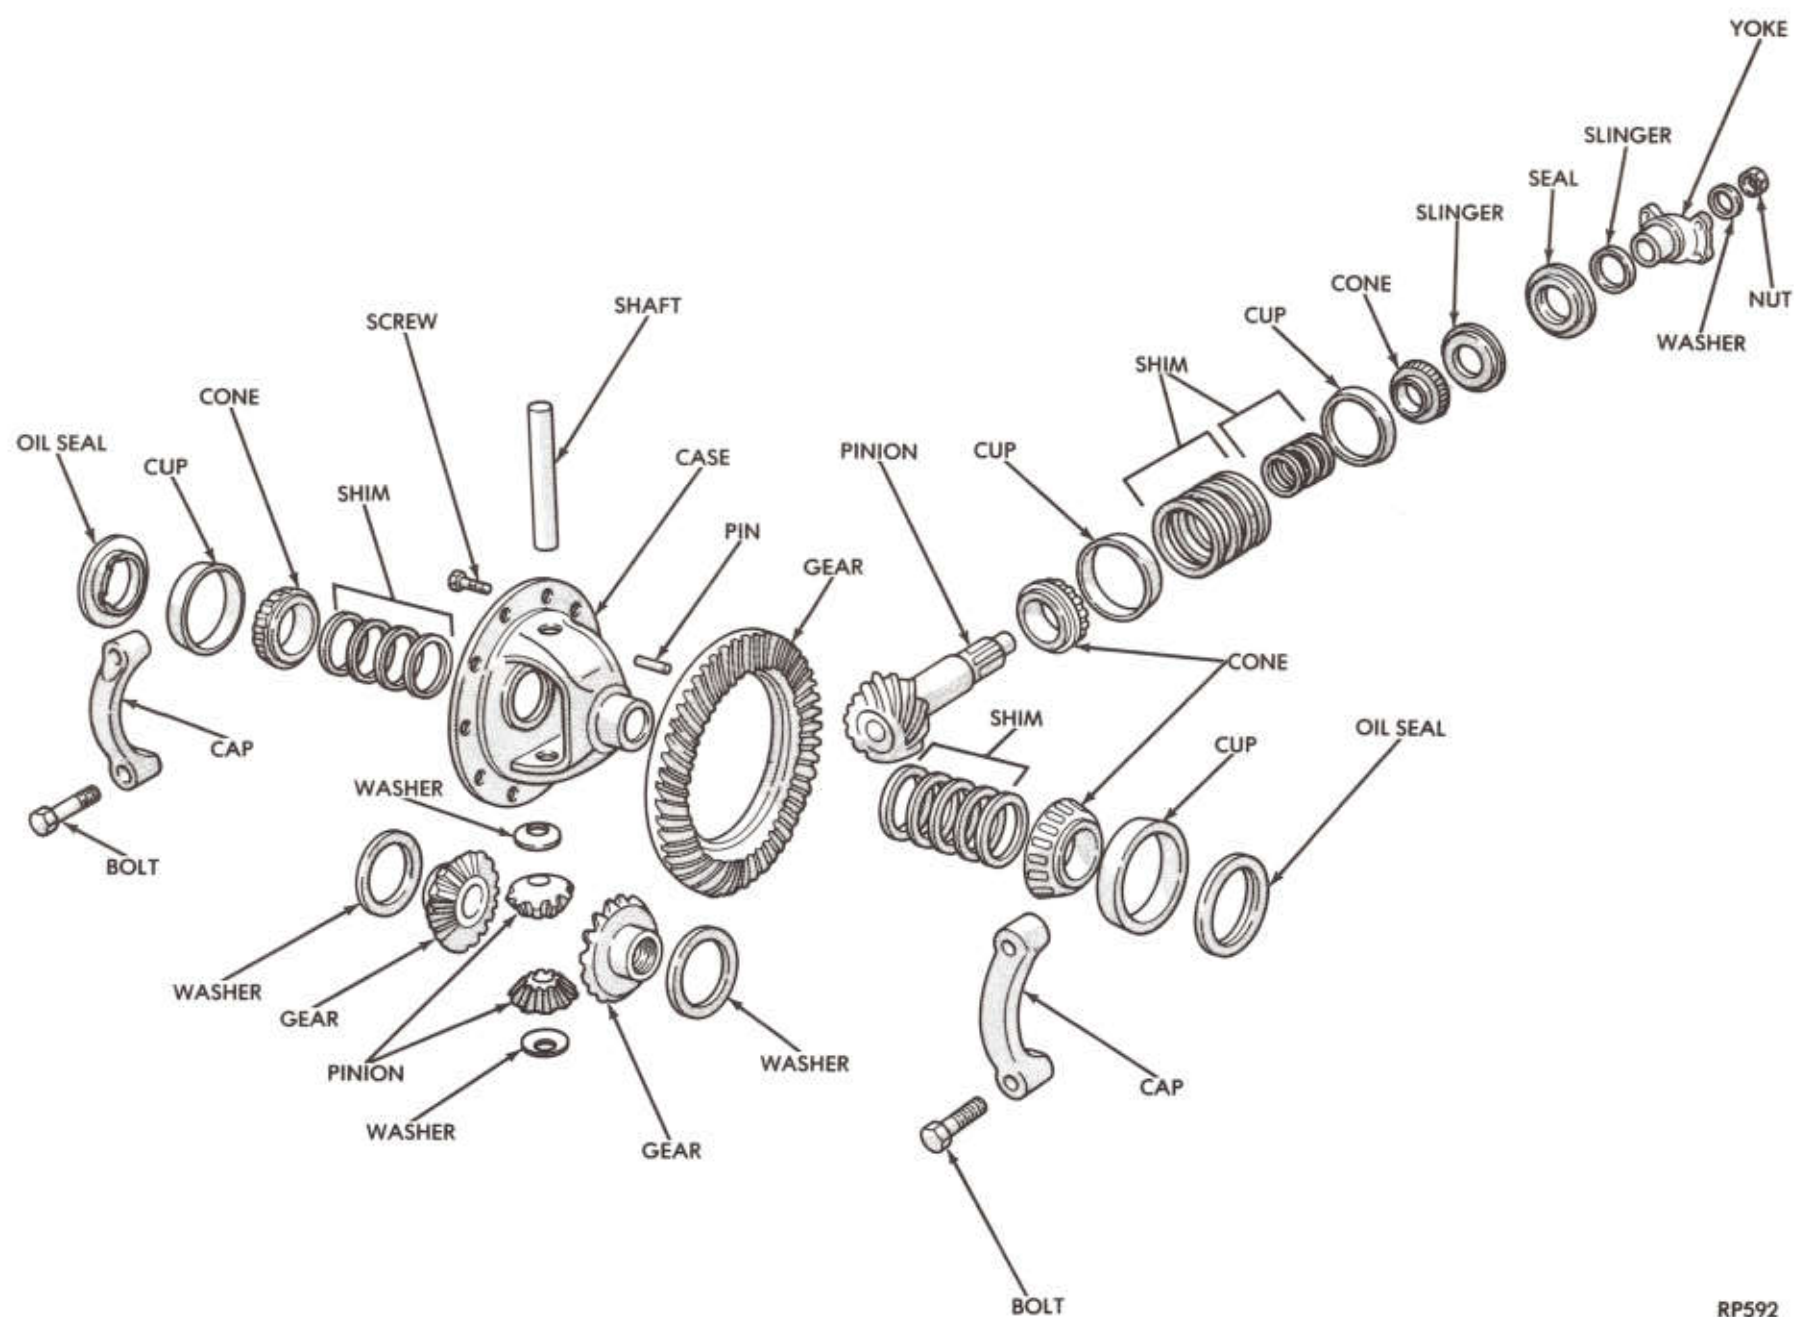

Fig. 10—Differential Assembly (60 and 60M Model Axles)
(1) Wash and clean all parts in a suitable cleaning solvent and with the exception of bearing cones, dry with compressed air. To clean axle housing tubes, insert a stiff wire into tube, attach a clean cloth to wire at center section and withdraw from center outward. Do not steam clean. Figures 10 and 11 show a disassembled view of the differential assembly.
(2) All machined contact surfaces in the axle housing and differential bearing caps should be smooth and free of any raised edges. Outer and inner pinion bearing cup bore machine surfaces should be smooth. Raised metal on shoulders of bores incurred in removal of cups should be removed with a hand stone.
(3) Differential bearings and front and rear pinion bearing cone and cup assemblies should have a smooth appearance with no broken or dented surfaces on rollers or roller contact surfaces. The bearing roller retainer cages must not be distorted or cracked. **When replacing bearings, always replace the cup and cone in a set only.**
(4) Examine differential pinion mate shaft, pinion mates, side gears, thrust washers and differential case for wear or damage, replace all defective parts. **Pinion**